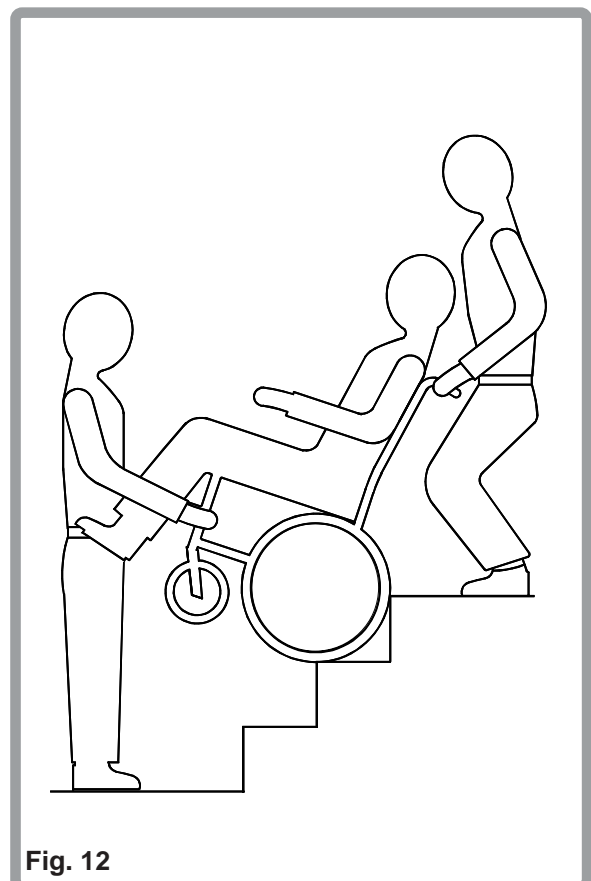

Fig. 12
1. Always use two or more attendants when moving a chair and rider up or down stairs (Fig. 12).
2. The attendant at the rear is in control. He or she tilts the chair back to its balance point (Fig. 12).